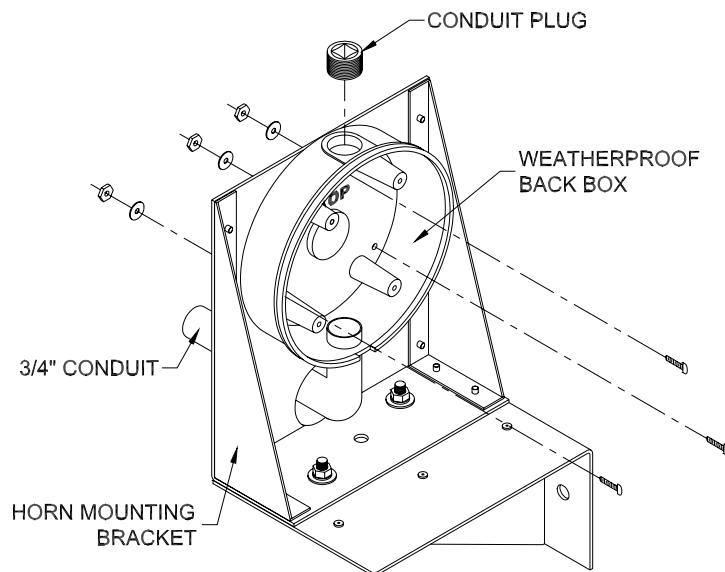

Figure 10 Back Box Mounting Points
10. Attach the weatherproof back box to the mounting bracket using the provided 8-32 x 1/2" Phillips head machine screws, #8 split-lock washers, and 8-32 hex nuts as shown in figure 10.